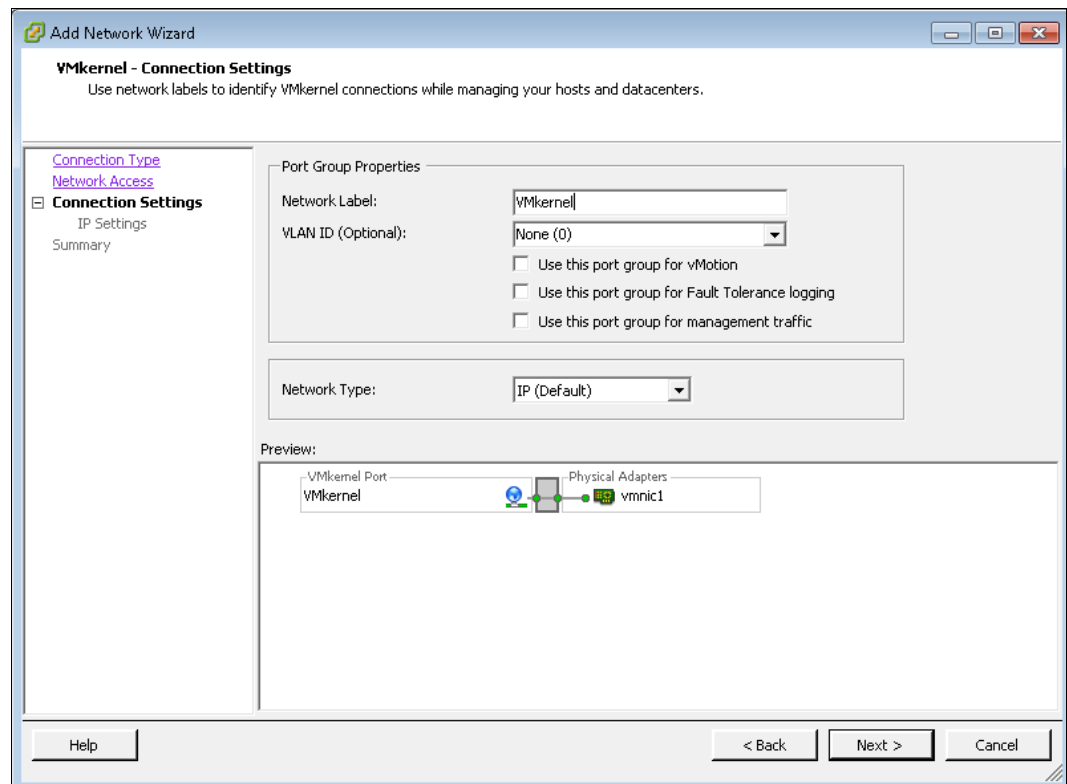

Figure 4-11 Enter a Network Label
4. Enter a meaningful Network Label and click **Next**, as shown in Figure 4-11.